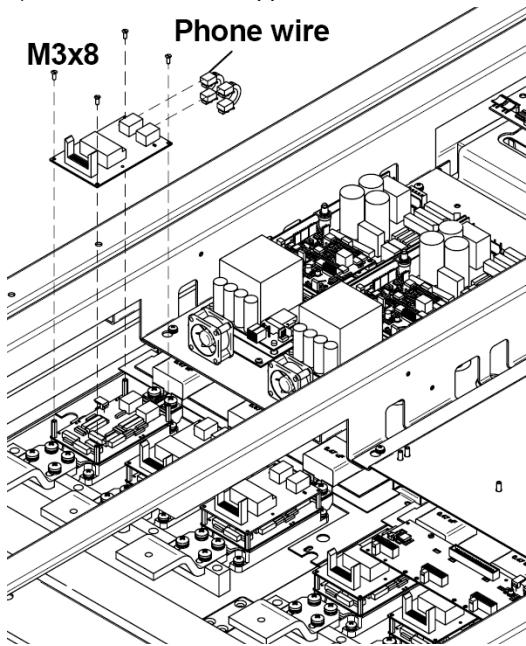

Figure 5.15. Disassembly of upper Gate Drive
Follow *figure 5.15* while reading these instructions:
- 2) Place the new board on the hexagonal spacers **M3x18**. (*figure 5.15*).